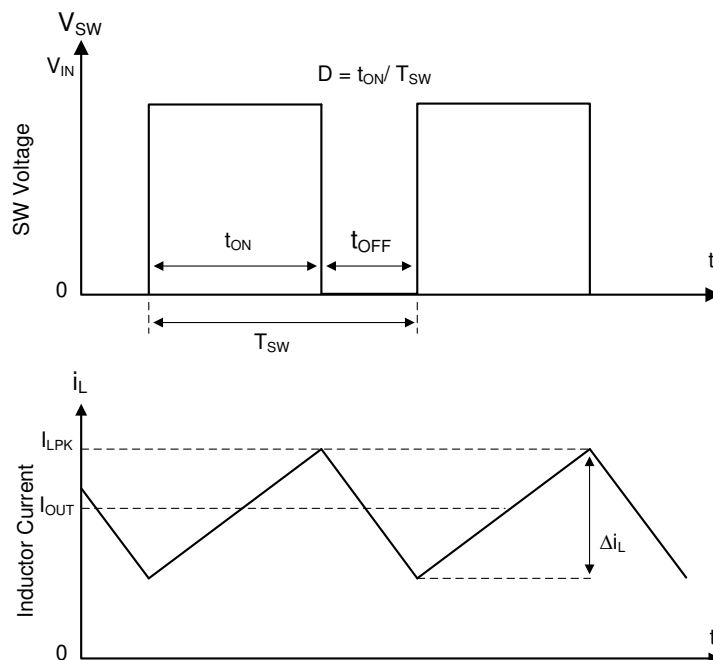

Figure 7-1. SW Node and Inductor Current Waveforms in Continuous Conduction Mode (CCM)
The following operating description of the LMR514xx refers to the Functional Block Diagram and to the waveforms in Figure 7-1. The LMR514xx is a step-down synchronous buck converter with integrated high-side (HS) and low-side (LS) switches (synchronous rectifier). The LMR514xx supplies a regulated output voltage by turning on the high-side and low-side NMOS switches with controlled duty cycle. During high-side switch ON time, the SW pin voltage swings up to approximately V_{IN} , and the inductor current, i_L , increases with a linear slope of $(V_{IN} - V_{OUT}) / L$. When the high-side switch is turned off by the control logic, the low-side switch is turned on after an anti-shoot-through dead time. Inductor current discharges through the low-side switch with a slope of $-V_{OUT} / L$. The control parameter of a buck converter is defined as Duty Cycle $D = t_{ON} / T_{SW}$, where t_{ON} is the high-side switch ON time and T_{SW} is the switching period. The converter control loop maintains a constant output voltage by adjusting the duty cycle D . In an ideal buck converter, where losses are ignored, D is proportional to the output voltage and inversely proportional to the input voltage: $D = V_{OUT} / V_{IN}$.